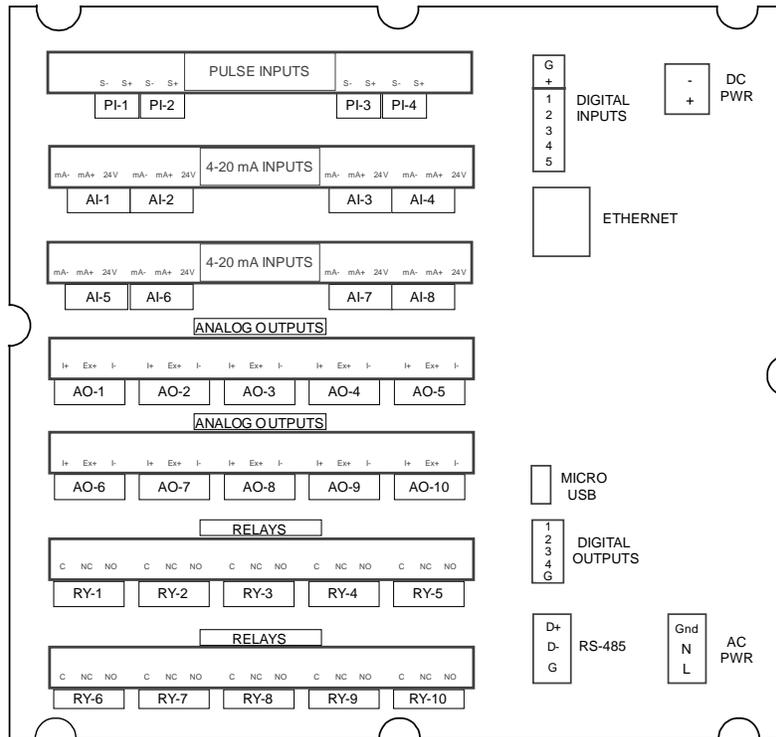

Fig 6: Terminal Connection for Tek-LCD 7801C
- Figure 6 shows terminal connections of Tek-LCD 7801C.
- This model accepts (4) pulse and (8) analog inputs, and (10) 4-20 mA outputs and (10) relays. (5) digital inputs, (4) digital outputs, RS-485 serial capability and USB connections are standard on Tek-LCD 7801C NEMA 4X Multi-Channel Controller.
- If all Input or Output slots are used exclusively for one function, the Tek-LCD 7801C NEMA 4X Multi-Channel Controller can accept up to (28) isolated 4-20 mA inputs, (28) pulse inputs, (25) isolated 4-20 mA outputs, or (25) relays.
- If used as a Modbus Client, Snooper, or Server only: (35) 4-20 mA outputs or (30) relays.
- Use three-terminal power connector as shown in Figure 6.